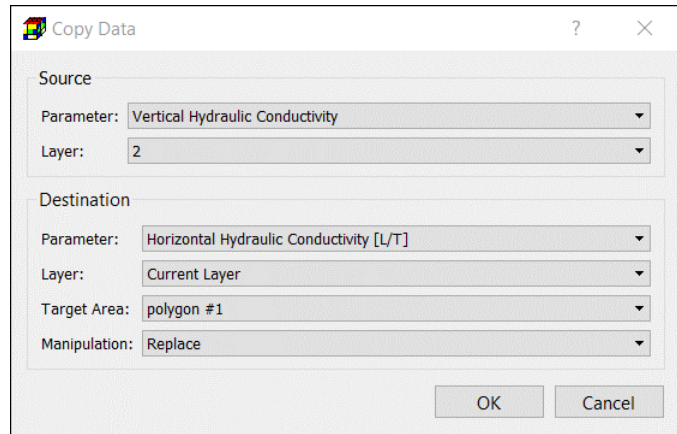

Figure 40. The Copy Data dialog box
6. **Copy:** Open the Copy Data dialog box (Figure 40) that allows you to copy cell values from the selected source to a destination.